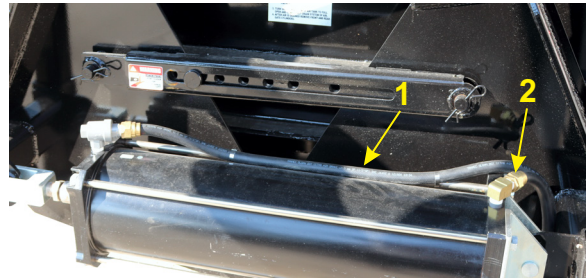

Figure 3-28 – Air Lines and Connectors
12. Inspect all airlines and connectors to make sure there are no signs of wear or damage, particularly the lines to the dump gate cylinders (1, 2, Figure 3-28). If any damage is noted, take the trailer out of service until repairs are completed.